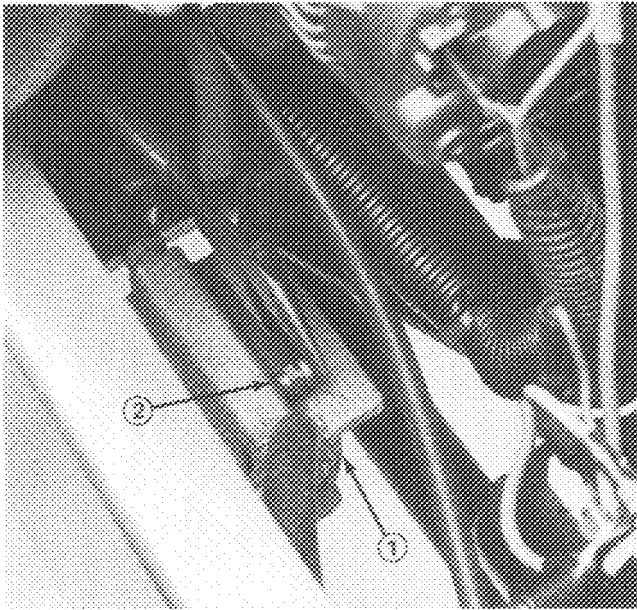

Figure 24
- 2. Loosen air bleed screw on top of fuel filter/water separator (Fig. 24).